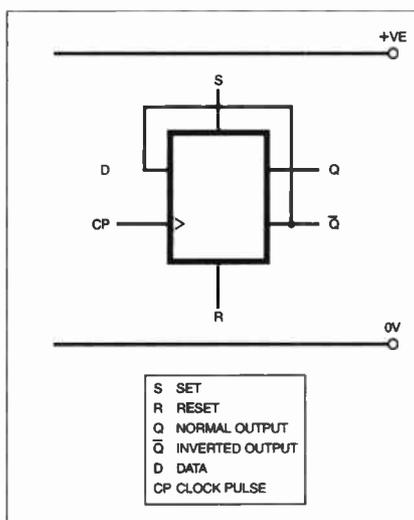

Fig. 10.8. Functional diagram for the T-type configuration using a D-type bistable.
The T-type (T for Toggle) configuration using a D-type bistable is shown in Fig. 10.8. It simply involves connecting the inverted output ( $\bar{Q}$ ) to the data input (D). The effect of this is that whenever the clock input logic is taken from low to high, output Q copies D, and since D is connected to  $\bar{Q}$ , the result will be that output Q always changes state. In other words, each time the clock is taken high, outputs Q and  $\bar{Q}$  will change state.